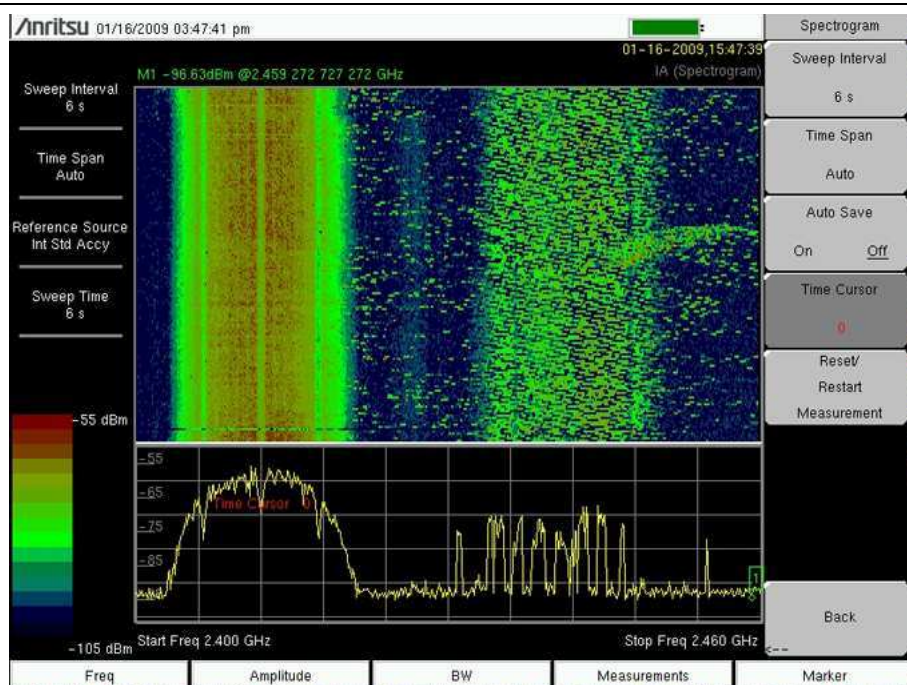

Figure 3-1. Spectrogram Example
The Spectrum Analyzer Measurement Guide includes sections that describe resolution bandwidth, video bandwidth, sweep, and attenuator functions. For example, in the Spectrum Master, Resolution Bandwidth is determined by the intermediate frequency (IF) filter bandwidth. The spectrum analyzer traces the shape of the IF filter as it tunes past a signal. If more than one IF filter is used in a spectrum analyzer, then the narrowest one dominates and is considered the resolution bandwidth. Figure 3-1 is an example of a spectrogram display.